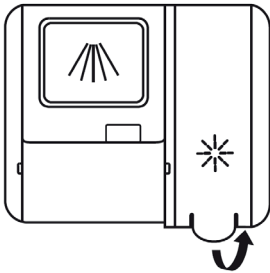

Fig. 3
2. Open the rinse aid dispenser as shown in Fig. 3.